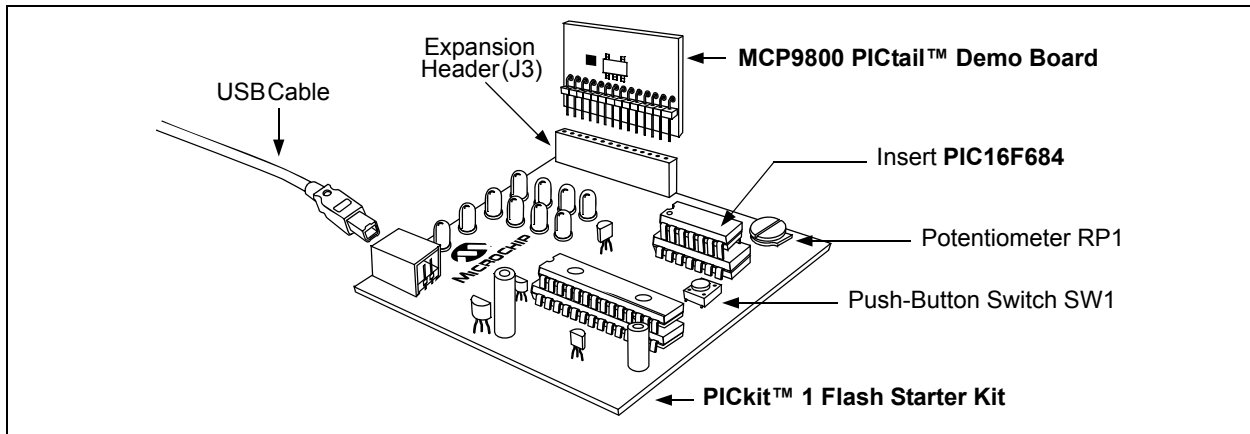
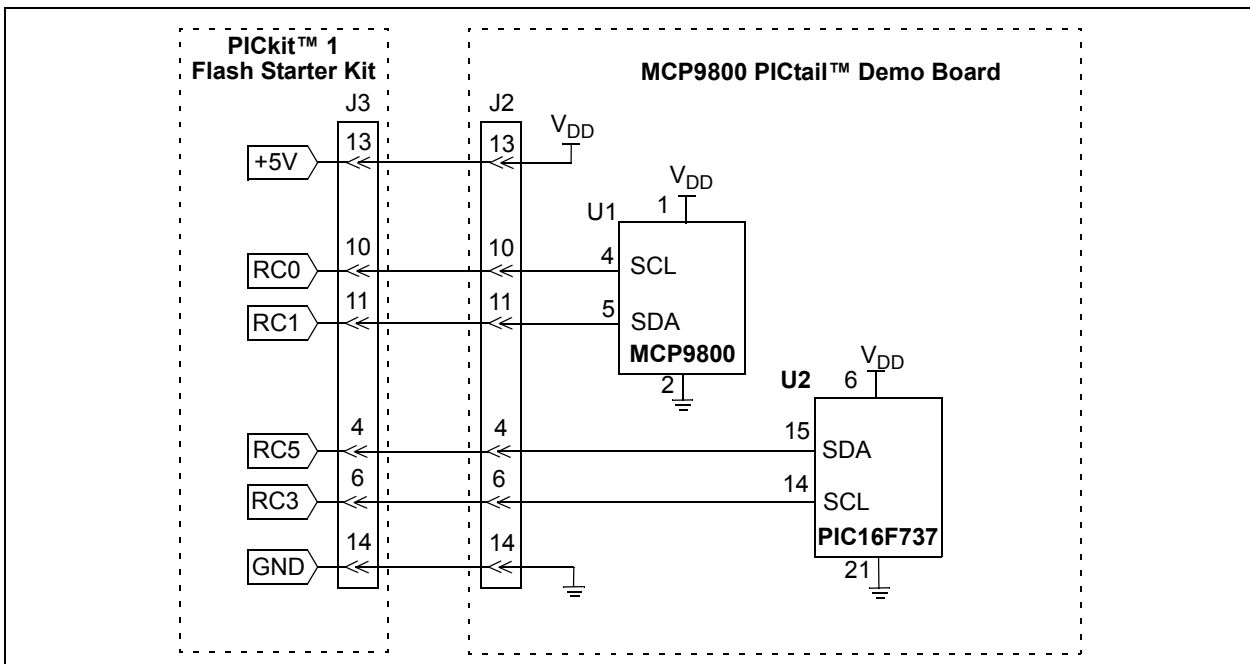

FIGURE 2-2: MCP9800 Thermal Sensor PICtail™ Demo Board and PICkit™ 1 Flash Starter Kit.
FIGURE 2-3: Simplified MCP9800 Thermal Sensor PICtail™ Demo Board Schematic.
1. Connect the J2 header of the MCP9800 Thermal Sensor PICtail Demo Board to the J3 connector on the PICkit 1 Flash Starter Kit. Refer to Figure 2-2 for proper orientation of the MCP9800 Thermal Sensor PICtail™ Demo Board and Figure 2-3 for a simplified board schematic.